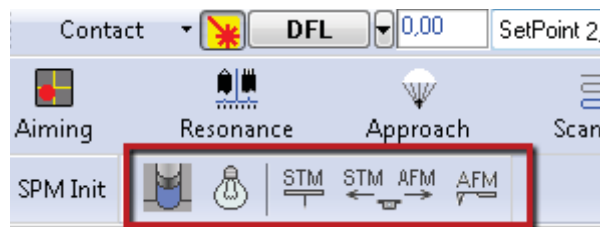
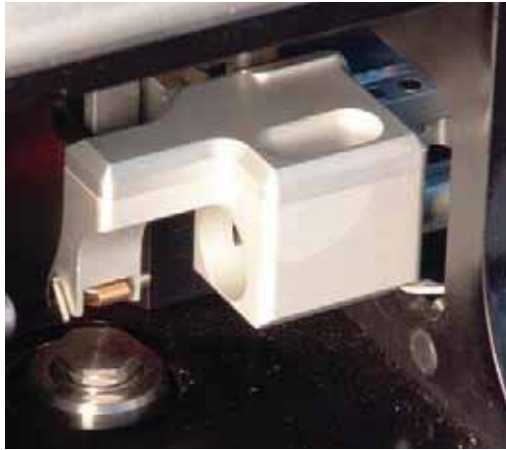

Fig. 6-5. Measurement Heads Control panel
Fig. 6-12
1. If any of the measuring heads is in its working position at the moment of mounting/exchanging the sample, that head should be moved to its inoperative position by clicking the  button in the Measuring heads Control panel (Fig. 6-5).
- a) Click the  button in the Measurement Heads Control panel (Fig. 6-5). This will move the AFM head to its working position (Fig. 6-12).